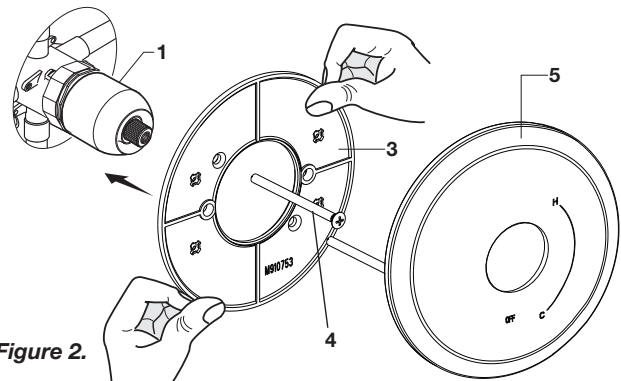

Figure 2.
- **Figure 2.** Push MOUNTING PLATE (3) onto CAP (1) and attach to valve body with LONG SCREWS (4).
- **Figure 2.** Push ESCUTHCEON (5) on to MOUNTING PLATE (3).